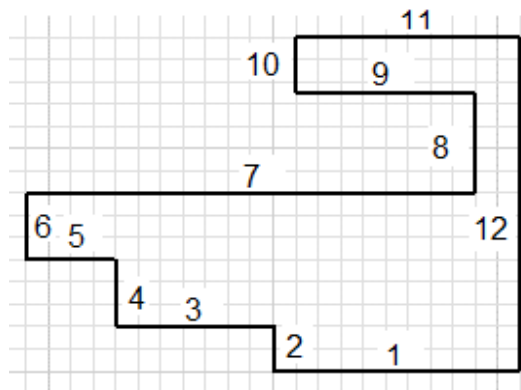

Figure 2-77 Sketch after drawing the lines
3. Move the cursor upward in the graphics window. Next, enter **4** in the length input field, press TAB, and enter **90** in the angle input field; line 2 is drawn, as shown in Figure 2-77.
*In Figures 2-77 and 2-78, the display of axes and grids have been turned off for a better visibility of the lines of the sketch.*